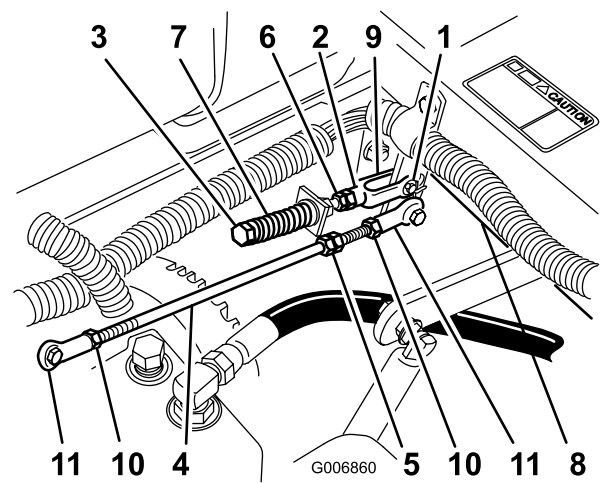

Figure 69
1. Loosen the locknuts at the ball joints on the pump control rod (Figure 69).
3. Adjust the pump rod length by rotating the double nuts on rod, in the appropriate direction, until wheel is still or slightly creeps in reverse (Figure 69).
6. Tighten the locknuts at the ball joints (Figure 69).